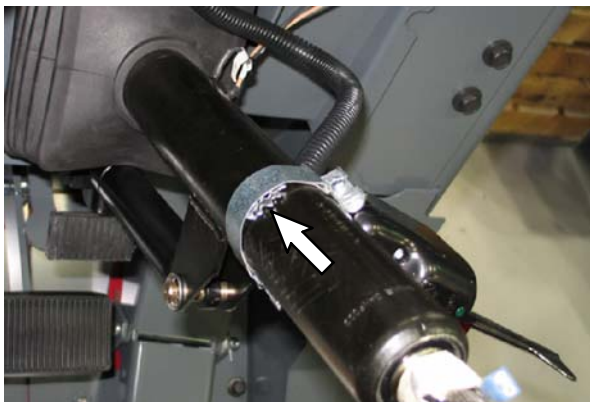

FIG. 8
16. Use the strip from the previous several steps (bent ends against the steering column) to install the turn signal switch (4) onto the steering column. Insert the lock washer (31) between the strip and steering column before completely tightening the turn signal switch onto the steering column. Refer to Fig. 8.